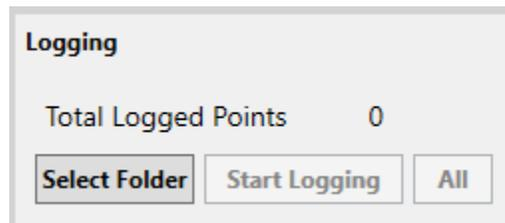

Figure 65. Data logging interface.
- In the “Logging” panel, click the “Select Folder” button as shown in Figure 65. This will prompt a folder selection where the data will be generated.